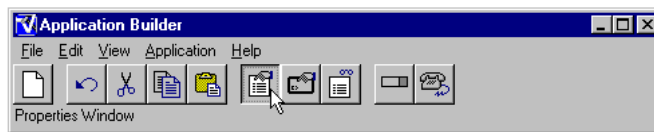
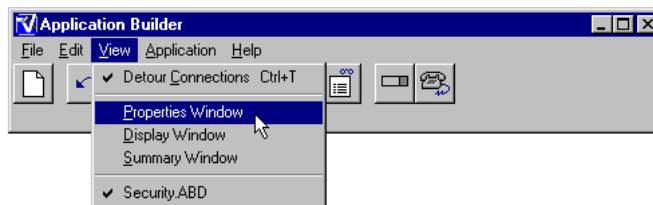

Figure 3-16 Application Builder Toolbar - Properties Window Button
Figure 3-17 View Menu - Properties Window Command
15. Click the **Properties Window** button on the toolbar (Figure 3-16) or choose **Properties Window** from the **View** menu (Figure 3-17).